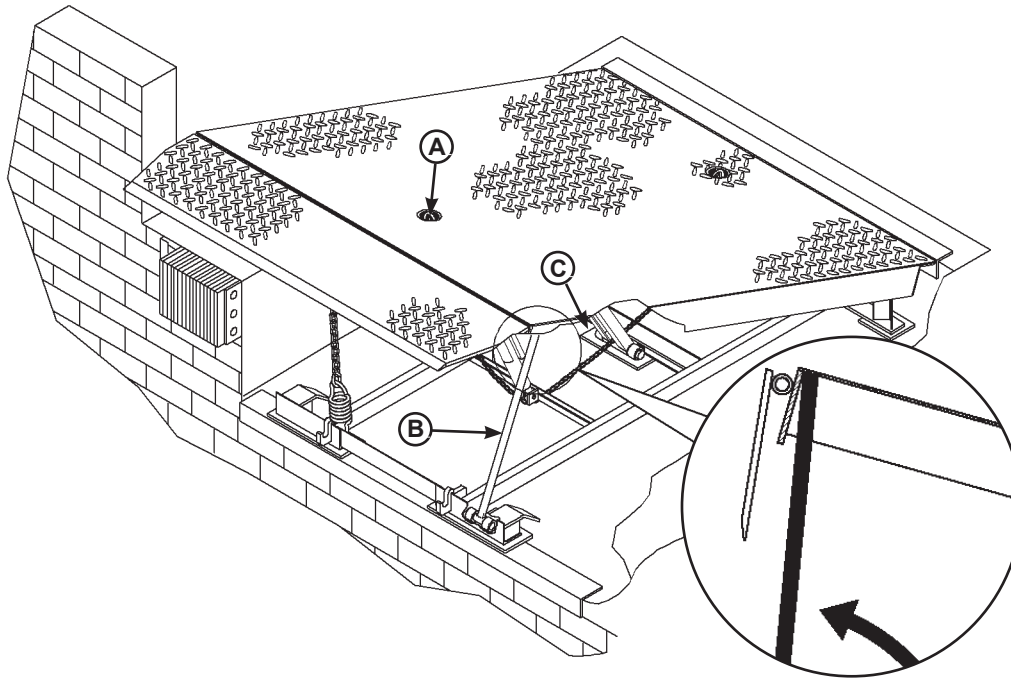
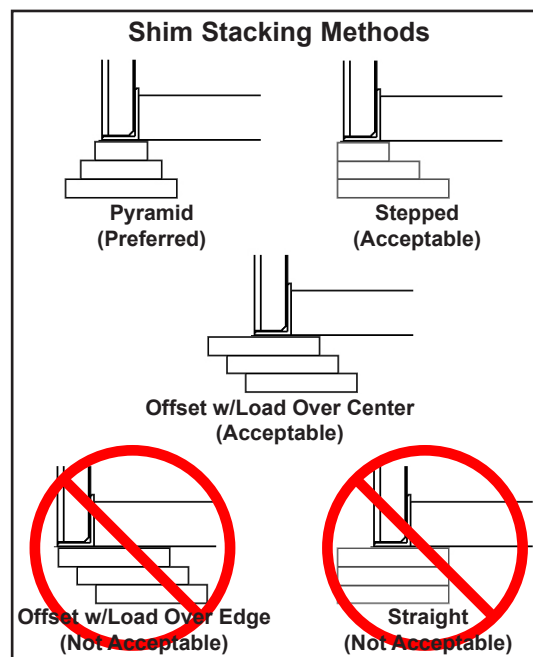

Figure 12
Figure 13
2. Shim and weld the maintenance prop (Figure 12):
- a. Install shims under maintenance prop (B) where prop attaches to leveler frame. Make sure prop is solidly shimmed.
- b. Raise maintenance prop (B) to the service (upright) position and lock prop in this position using an OSHA approved locking device.
3. Install shims under lift arm (C, Figure 12) at locations using an acceptable shimming method (see Figure 13). The lift arm pivot must be solidly shimmed the entire length of the lift arm pivot. Make sure the lift arm pivot is level from side-to-side.